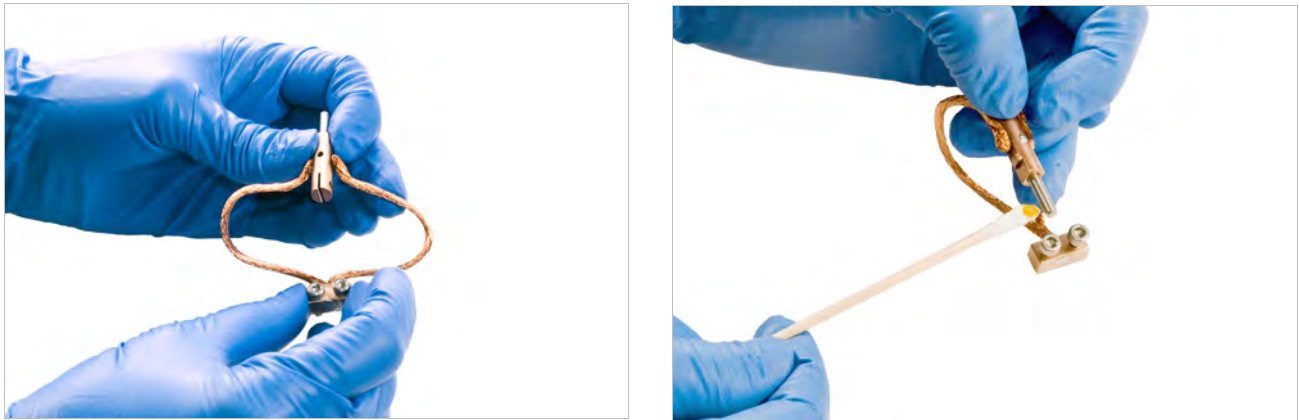

FIGURE 3-19 Left: To install the probe mount, bend the probe mount braids; Right: Apply grease to the end of the dowel
2. Flex the probe mount braids so that the copper braid block will be in approximately the correct position for attachment (FIGURE 3-19).
3. If desired, apply a small amount of Apiezon® N brand grease to the end of the dowel and the bottom of the braid block (FIGURE 3-19). The grease enhances the thermal contact between the probe and the probe arm; however, some users prefer to keep the sample area free of all greases. Specified system performance does not require grease on the bottom of the probe arm braid block or on the probe dowel.